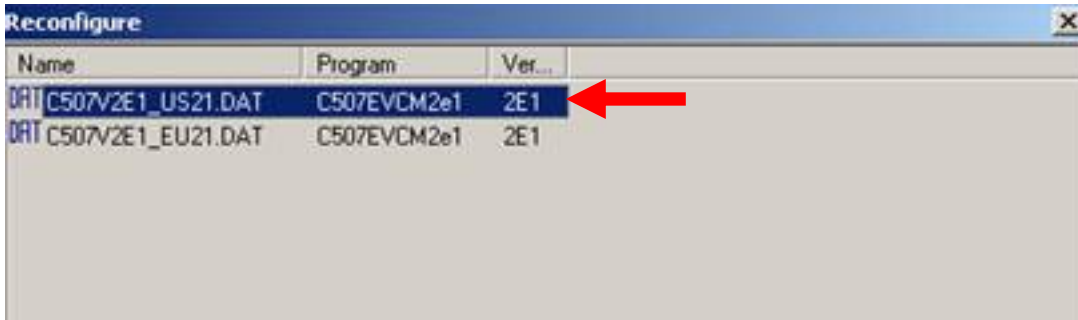

Figure 23
3.22. Select the **US** (arrow, Figure 23) for the country version then confirm your selection with: **GO** and then with **YES**.